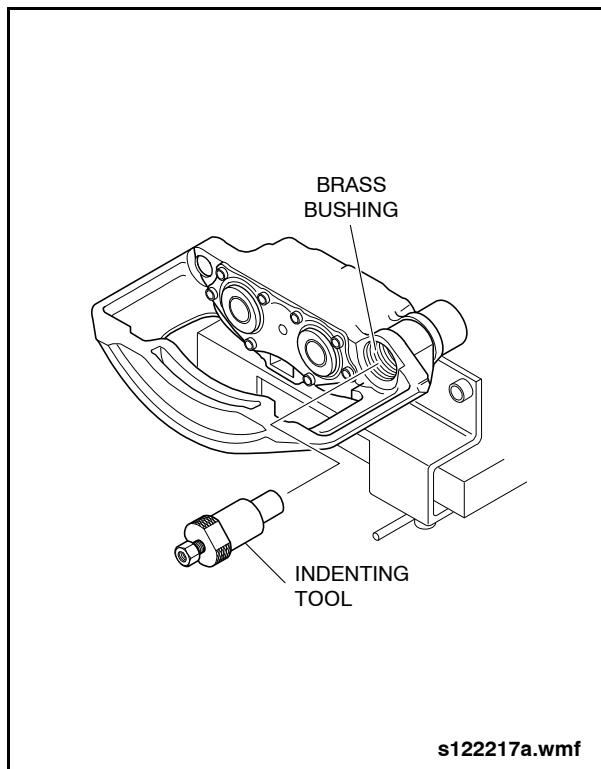

Fig. 1-62: Indenting Tool Installation
- c. Insert the indenting tool (Item 74 from special tools list) into brass bushing from the outside until the stop is contacted. **See "Fig. 1-62: Indenting Tool Installation" on page 68.**